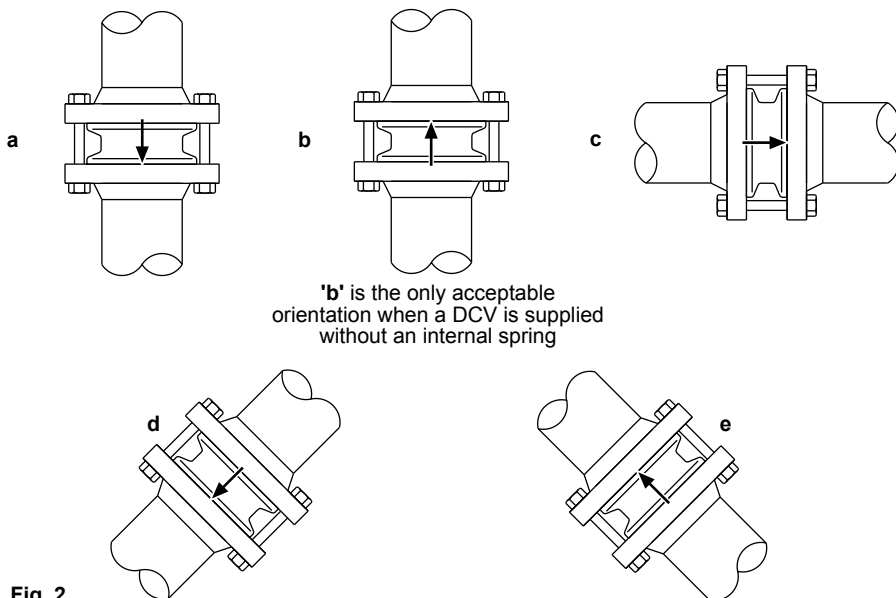

Fig. 2
- 3.5** Disc check valves simply fit between two pipe flanges (see Figure 2). Standard gaskets are used either side of the valve together with longer bolts or studs. **Note:** flanges, bolts (or studs), nuts and joint gaskets to be provided by the installer. Normal sensible flange bolting practice should be followed eg. torque tightening the bolts in opposite sequence.